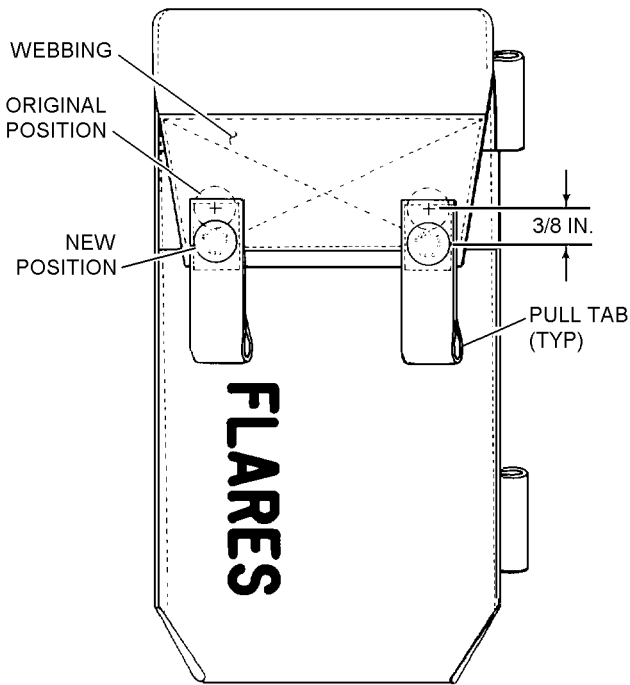

Figure 15-7. Flare Pouch Repair
2. Position MIL-W-4008 Type VIII webbing on outside surface of pouch flap. Cut and sear webbing ends to match contour of flap end. Boxstitch webbing to flap using size E nylon thread (V-T-295). See figure 15-7.